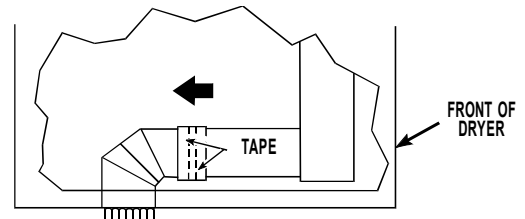

FIGURE 7
- Slide the short section of the straight vent into the elbow about 1 inch. Secure both ends of the straight vent with vent tape. See Figure 7.